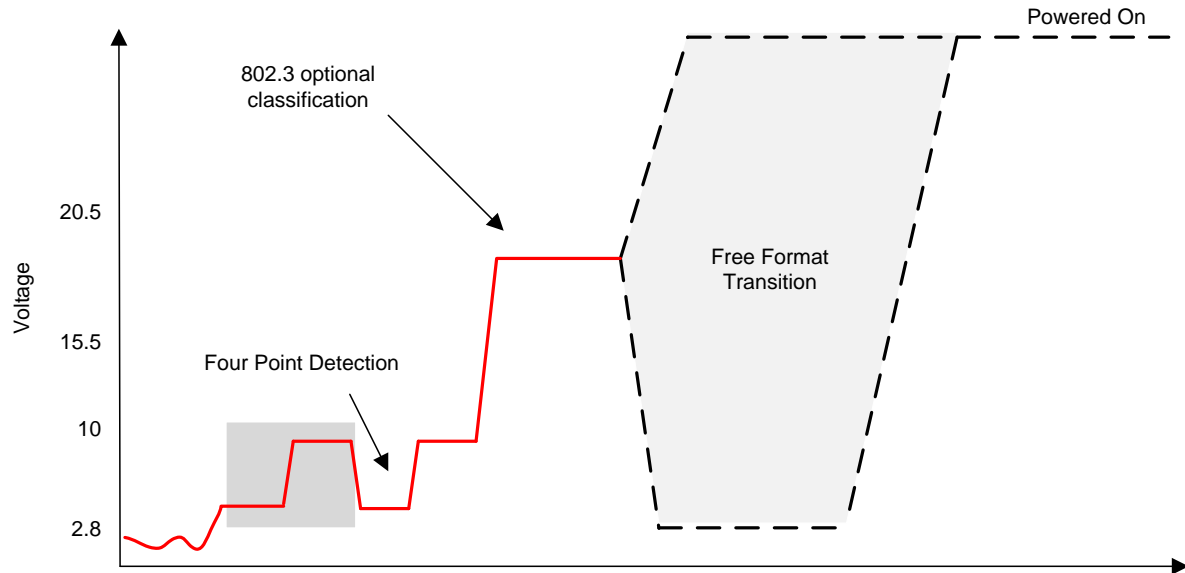
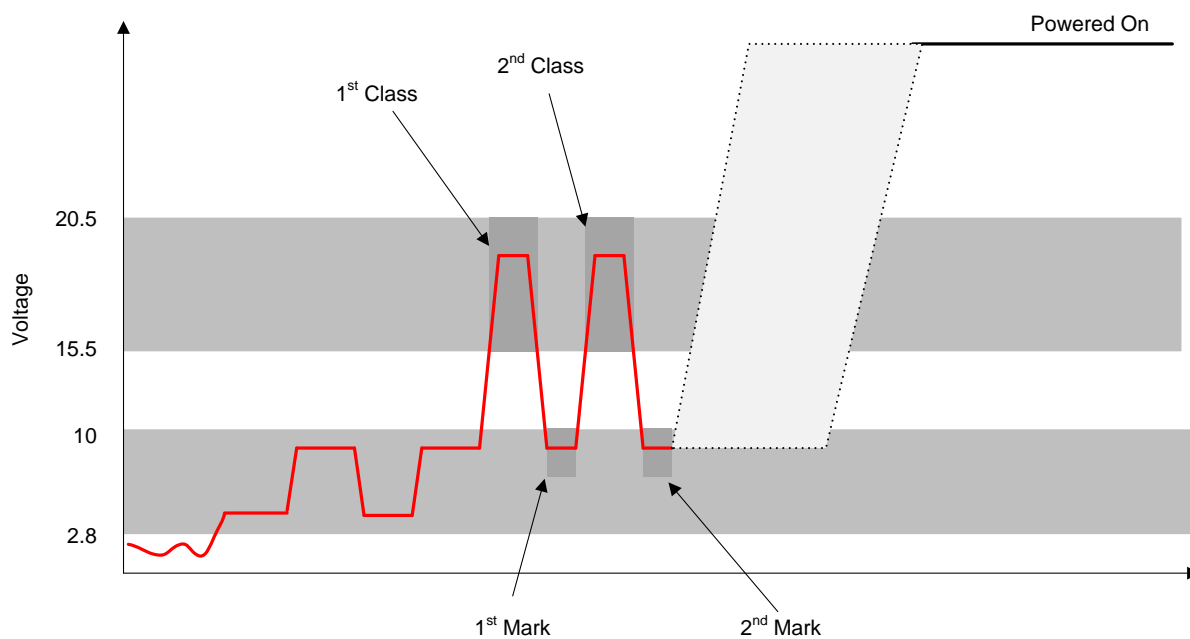

Figure 38. 802.3af with Classification
Figure 39. P802.3at with Classification
See Figure 38 and Figure 39 for illustrations of the voltage on the Power Interface (PI) during single-event (802.3af) and 2-event (802.3at) classification.